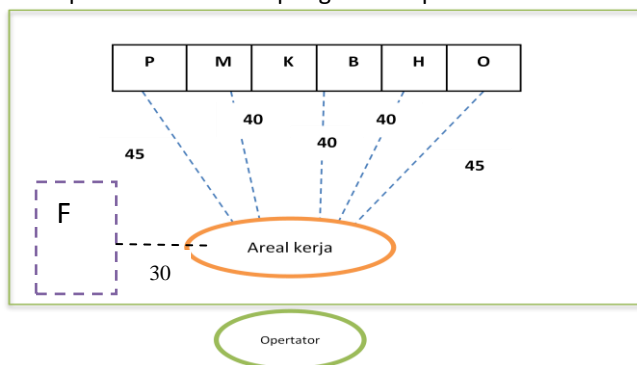

Figure 1. Working Areal Lay Out
Figure 1 below, is the layout of the workplace to pack 5 pieces of red color markers (M), Yellow (K), blue (B), Green (H) and Orange (O). P is the plastic packing material. F is a marker that has been packed. Maximum Jangkauan operator is 30 cm. Is there a workplace layout better than this. If there is show time more efficiently. Make the assumption that markers pengemasan process easier.